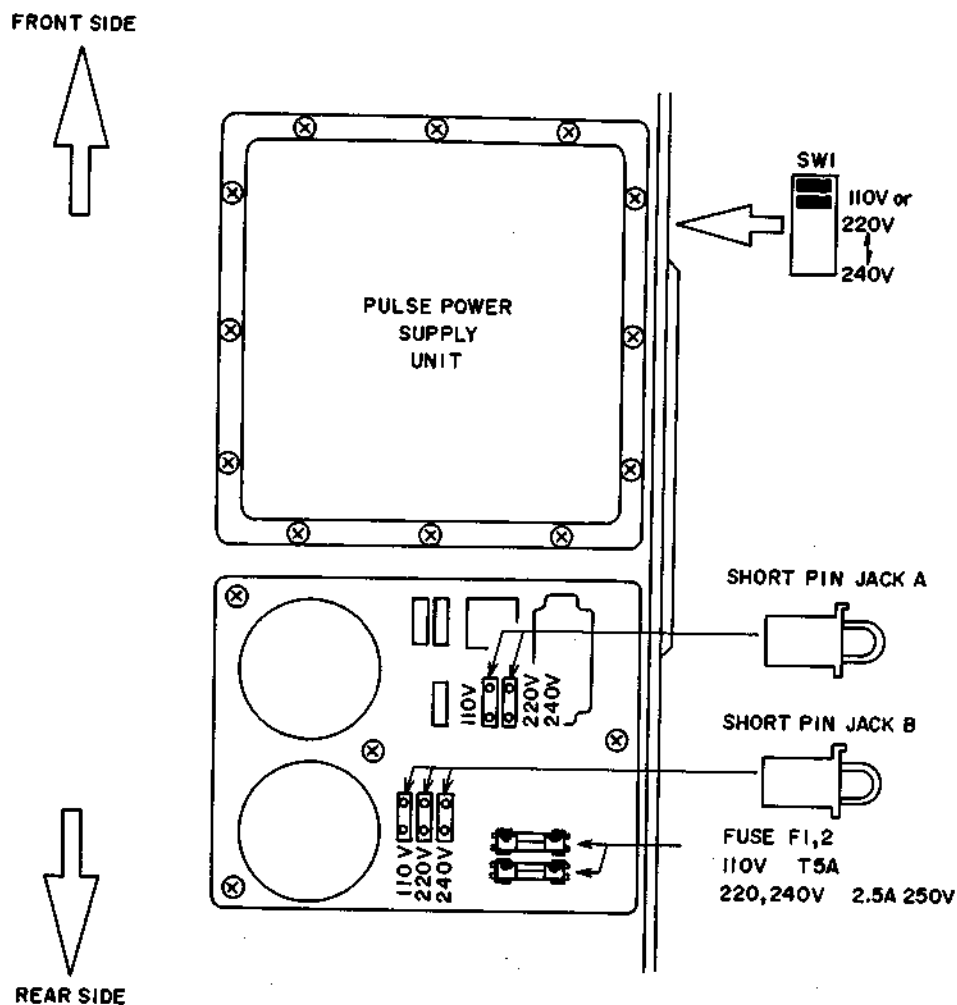

Fig. 4 Voltage Conversion (U/T Model)
### 1. U/T MODEL (Refer to Fig. 4)
3. Align the short pin jacks A and B with the position for each voltage area as shown in Fig. 4 and then plug in.